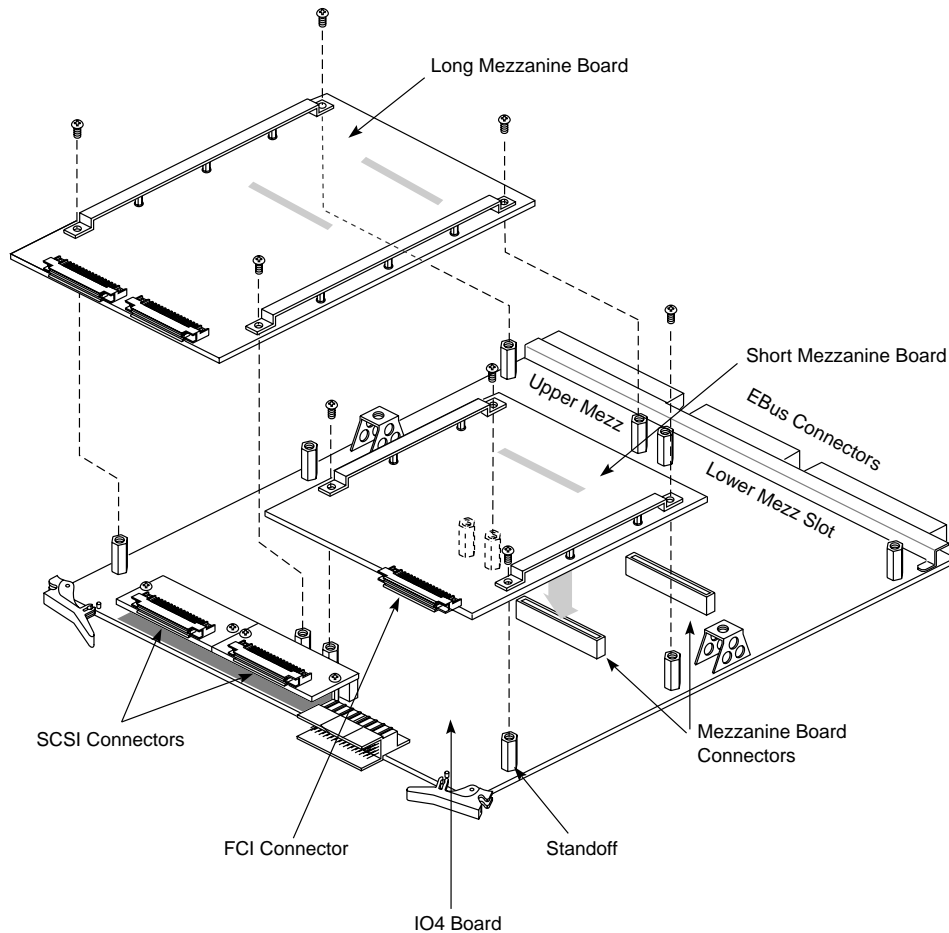

Figure 2-11 IO4 Board with Mezzanine Boards
2. Lay the board on a flat antistatic surface so that the component side faces up and the SCSIII connectors face toward you, as illustrated in Figure 2-11.
3. Locate the selected mezzanine slot (upper or lower) and remove the four screws from the standoffs, as illustrated in Figure 2-11. If the screws are missing, this is not a problem.
5. Position the mezzanine board onto the selected slot so that the connector on the bottom of the mezzanine board matches the mezzanine board receptacle on the IO4 board and the standoffs match the board's holes. Figure 2-11 illustrates the correct positioning for the upper and lower slots.